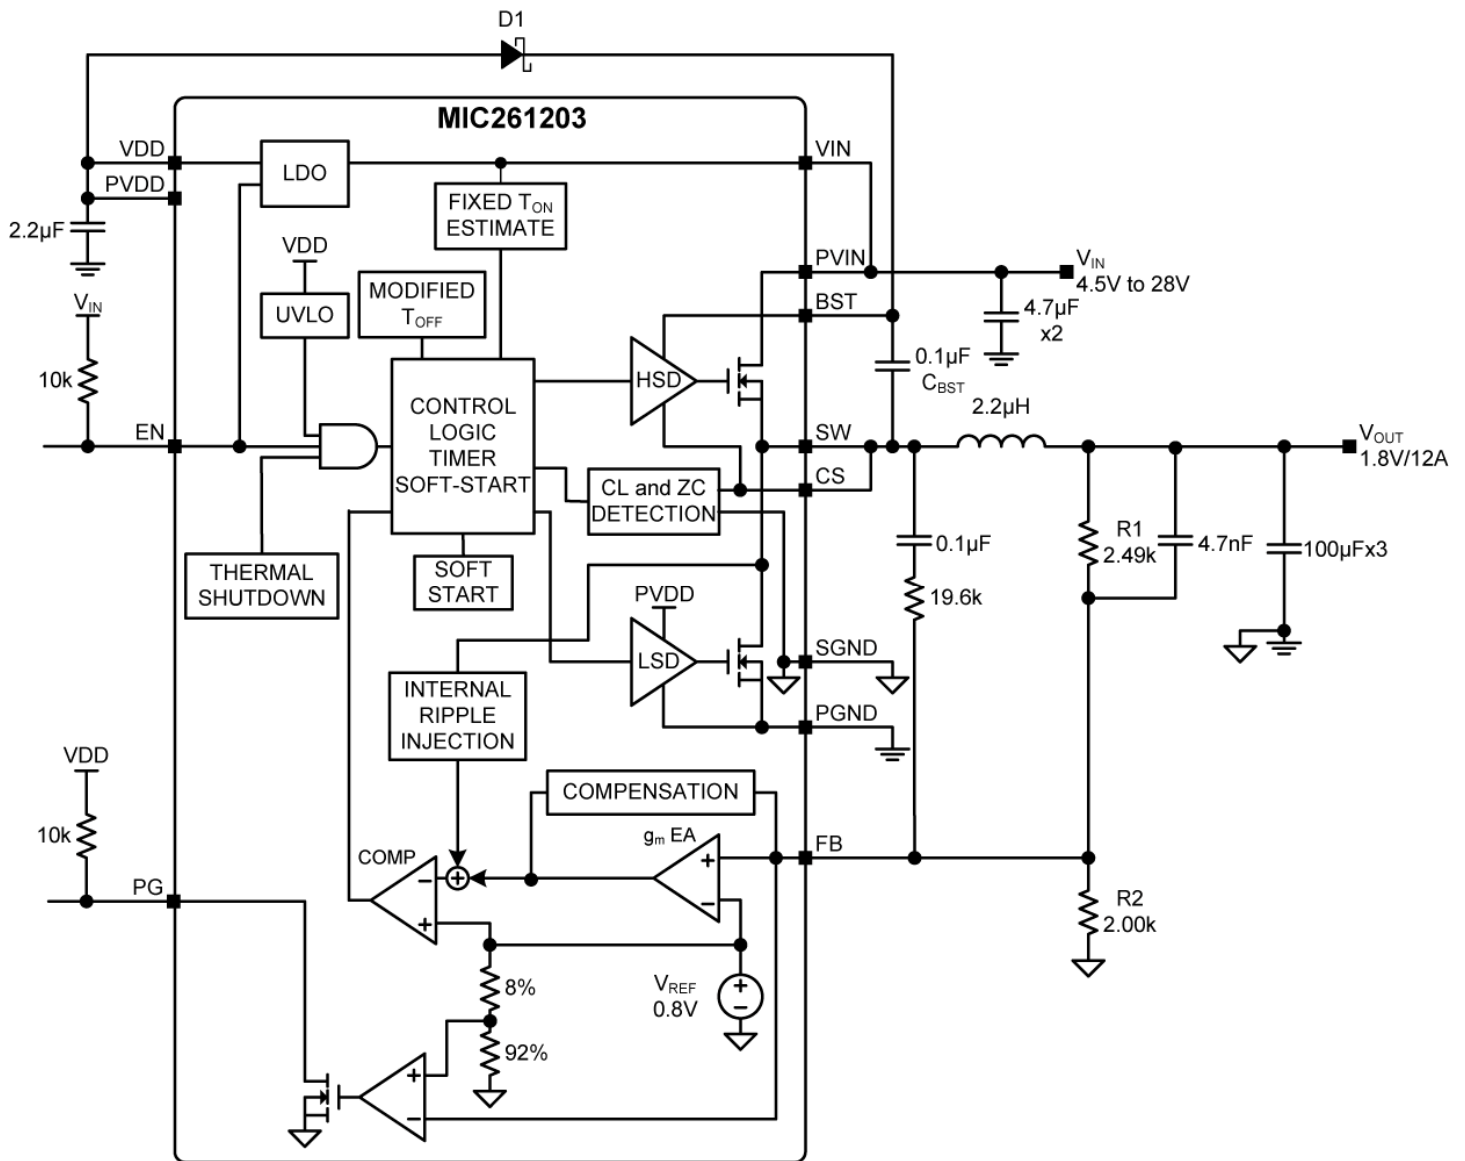

Figure 1. MIC261203 Block Diagram
The MIC261203 is able to operate in either continuous mode or discontinuous mode. The operating mode is determined by the output of the Zero Cross comparator (ZC) as shown in Figure 1.
The Block Diagram (Figure 1) shows a bootstrap circuit, consisting of D1 (a Schottky diode is recommended) and C_{BST} . This circuit supplies energy to the high-side drive circuit. Capacitor C_{BST} is charged, while the low-side MOSFET is on, and the voltage on the SW pin is approximately 0V. When the high-side MOSFET driver is turned on, energy from C_{BST} is used to turn the MOSFET on. As the high-side MOSFET turns on, the voltage on the SW pin increases to approximately V_{IN} . Diode D1 is reverse biased and C_{BST} floats high while continuing to keep the high-side MOSFET on. The bias current of the high-side driver is less than 10mA so a 0.1 μ F to 1 μ F is sufficient to hold the gate voltage with minimal droop for the power stroke (high-side switching) cycle, i.e. $\Delta BST = 10\text{mA} \times 1.67\mu\text{s} / 0.1\mu\text{F} = 167\text{mV}$. When the low-side MOSFET is turned back on, C_{BST} is then recharged through D1. A small resistor R_G , which is in series with C_{BST} , can be used to slow down the turn-on time of the high-side N-channel MOSFET.